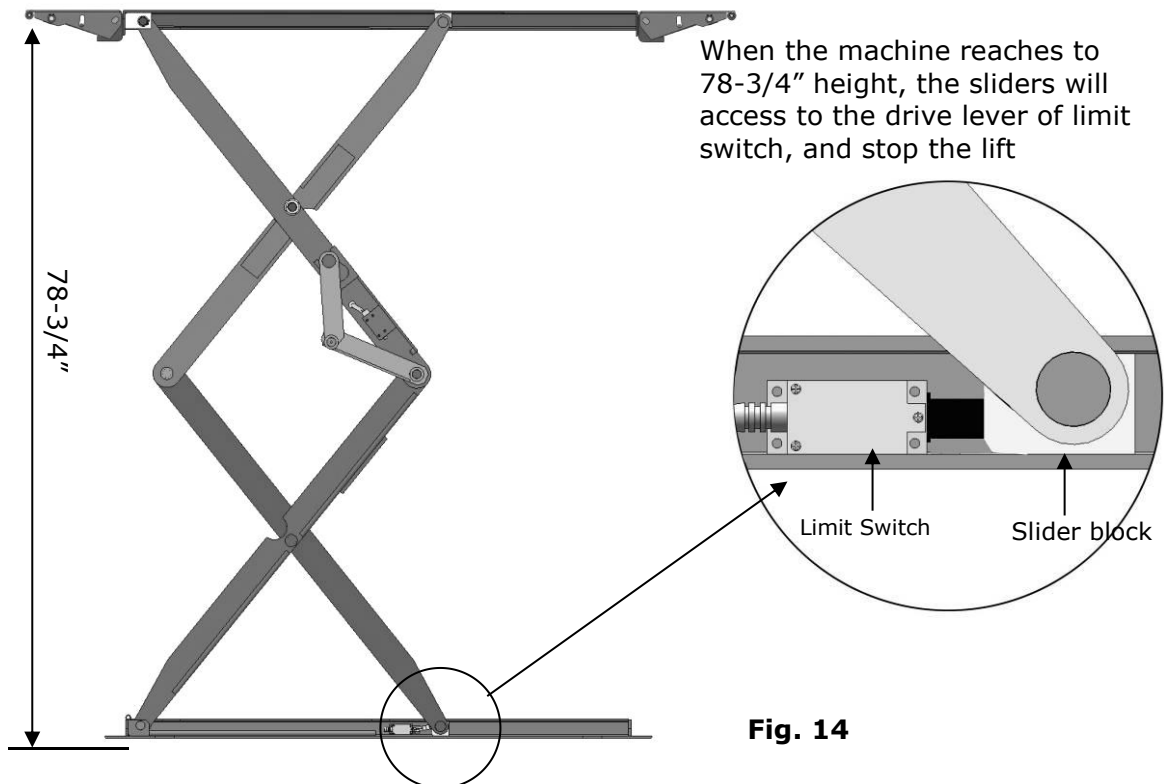

Fig. 14
2.1 High limit switch instruction (See Fig. 14)